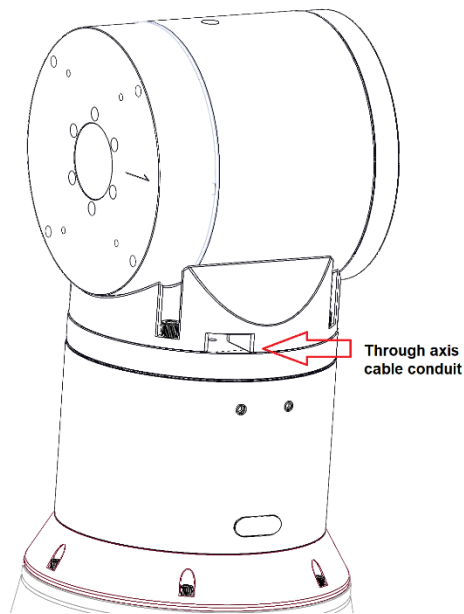

Figure 60: Location of the cable conduit.
- When mounting the pier to the concrete flooring, the pier's main panel should face in the opposite direction compared to the celestial pole (Figure 60).